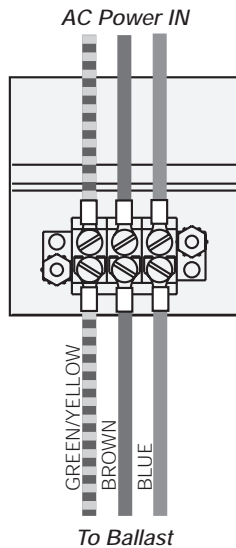

Figure 1. Power Connection for Backlighting Option
3. Use the screws and nuts provided to attach the ballast to the flip digit mounting panel (see Figure 1). Wrap the 8-inch plastic tie around the ballast to secure the ballast cover to the base.
5. Insert the lock washers provided between the ballast and power supply wire pairs and reconnect wires to AC power terminal (see Figure 1). Tighten screws and replace plastic cover on power terminal.